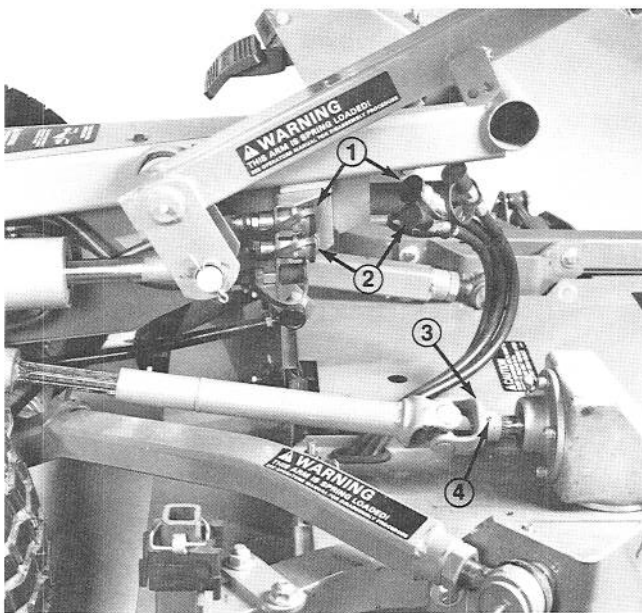

Figure 28
2. Disconnect three hydraulic lines at mounting bracket, located next to traction pedal, using quick disconnects (Fig. 28). Immediately put attached rubber plugs in disconnects on both the traction unit and deck hoses (Fig. 28).
4. Drive roll pin out of yoke and input shaft of gear box (Fig. 28). Slide yoke off the input shaft. If traction unit will be used without the cutting unit, drive roll pin out of yoke at PTO pivot shaft and remove entire universal shaft from traction unit.